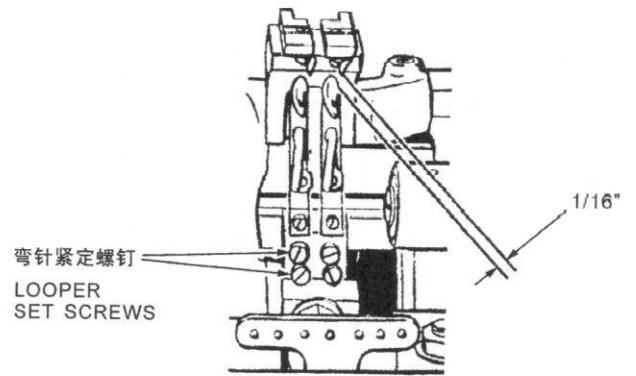

图 26 / Fig.26
**注意：**在单针和多针缝纫机上，必须使每一个弯针尖都刚好掠过其各自的机针针槽。需要调整时，使弯针转到机针中心，松开2个紧定螺钉(图26)，稍微左右转动弯针，然后锁紧紧定螺钉。
Move looper to extreme forward position. Check clearance between heel of looper and loop deflector, Fig. 26, which should be approximately 1/16 inch. To adjust, loosen the two looper set screws. Turn looper to left or right until correct clearance is attained. Hold in position and securely tighten the two set screws.
**CAUTION:** on single and multiple needle machines, make certain that the point of each looper just clears the scarf of its respective needle. To adjust, with looper point directly opposite center of needle, loosen the two set screws, Fig. 26, and turn looper slightly to left or right. Then tighten the set screws.